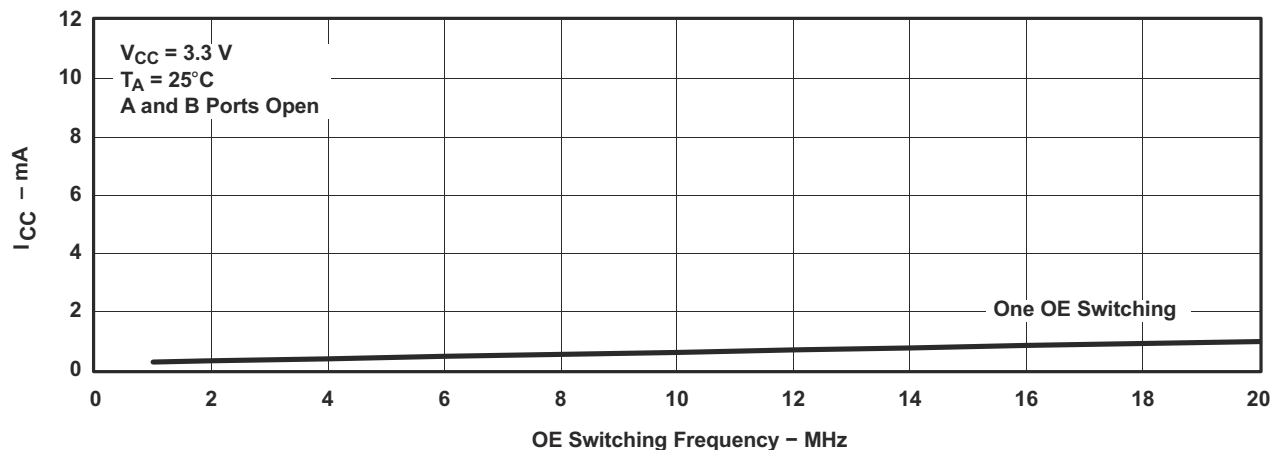

Figure 9-2. Typical I_{CC} vs OE Switching Frequency
- (1) V_{IN} and I_{IN} refer to control inputs. V_I , V_O , I_I , and I_O refer to data pins.
- (2) All typical values are at $V_{CC} = 3.3\text{ V}$ (unless otherwise noted), $T_A = 25^\circ\text{C}$.
- (3) For I/O ports, the parameter I_{OZ} includes the input leakage current.
- (4) This is the increase in supply current for each input that is at the specified TTL voltage level, rather than V_{CC} or GND.
- (5) This parameter specifies the dynamic power-supply current associated with the operating frequency of a single control input (see Figure 9-2).
- (6) Measured by the voltage drop between the A and B terminals at the indicated current through the switch. ON-state resistance is determined by the lower of the voltages of the two (A or B) terminals.